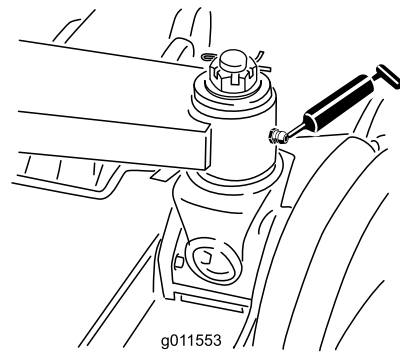
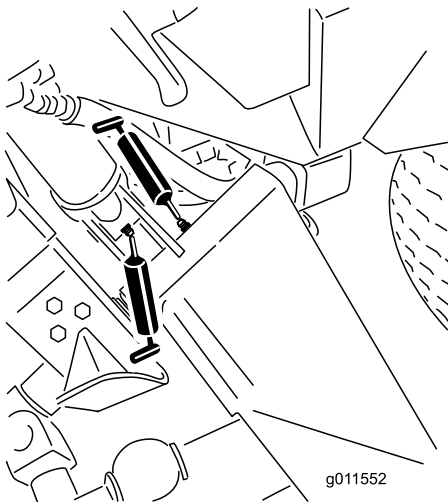

Figure 44
Figure 43
- 6 main lift-arm bushings (Figure 43 and Figure 44)